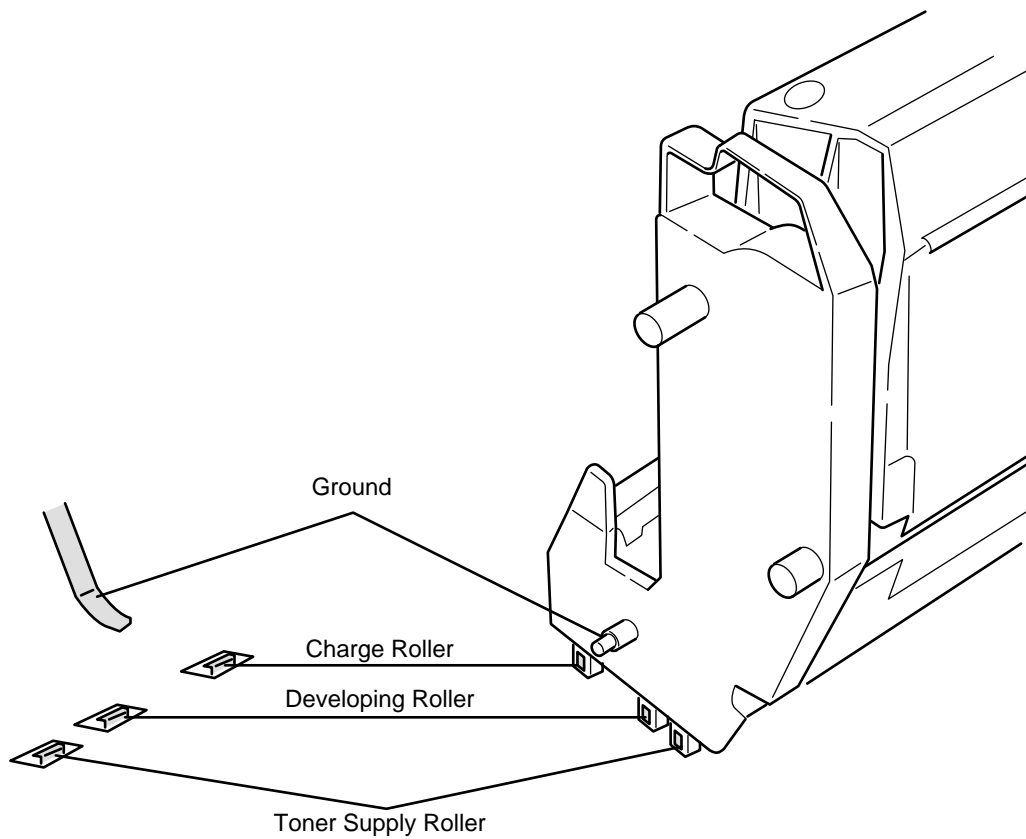

Figure 6.3
- ▼ NO Is the I/D terminal connected to the contact assembly properly? (See Fig. 6-3)